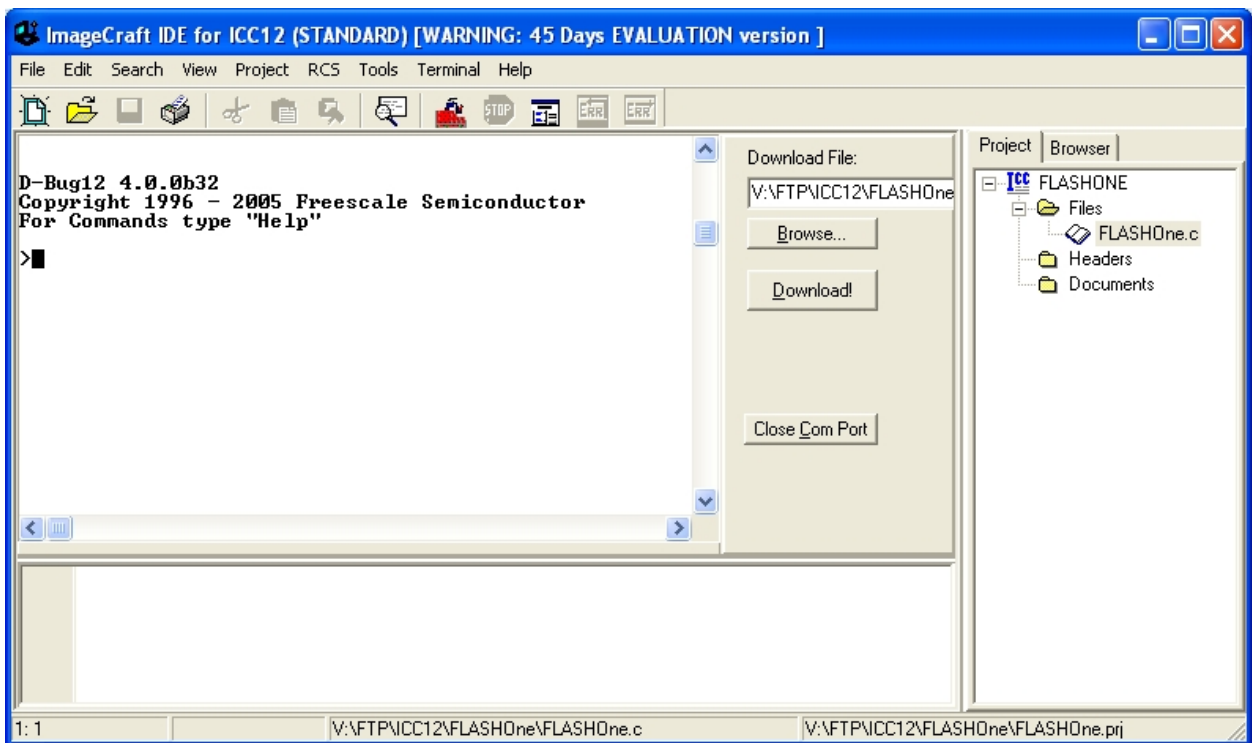

Figure 8. MiniDragon+ D-Bug12 Monitor Prompt.
6. When the FLASH programming completes and an input prompt is returned, reset the boot jumpers to the “EVB” mode (both switches “toward” the seven segment LED display). When you press the reset button on the MiniDragon+, you should next receive the D-Bug12 dialog as shown in Figure 8. You’re now ready to read, write, execute and debug from RAM.